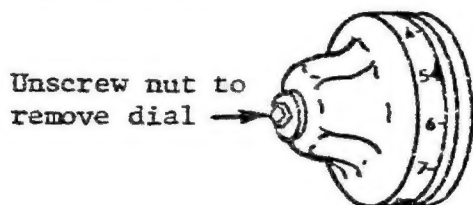

FIG. 11
2. Unscrew the square nut on the dial, (fig. 11) and pull the dial away from the machine.